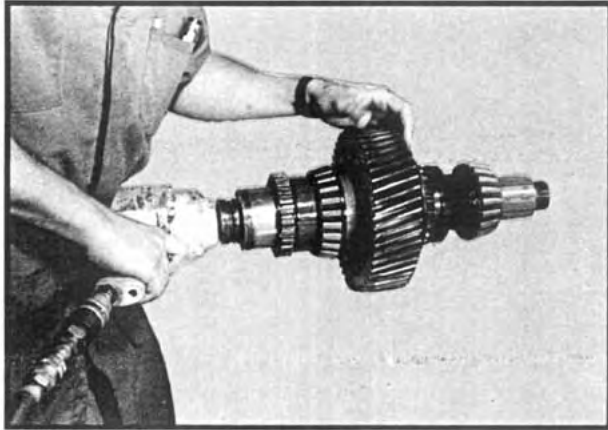

Fig 25
7. Remove the clutch gear retaining locknut with an impact wrench. See Figure 25. Slide the clutch gear off the shaft.